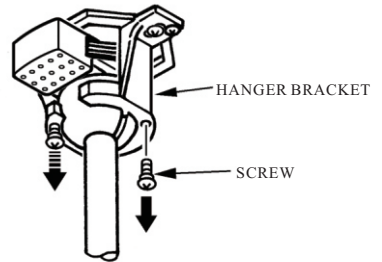

FIG.8
3. Remove one of screws and loosen the other screw from the hanger bracket. (see Fig.8)